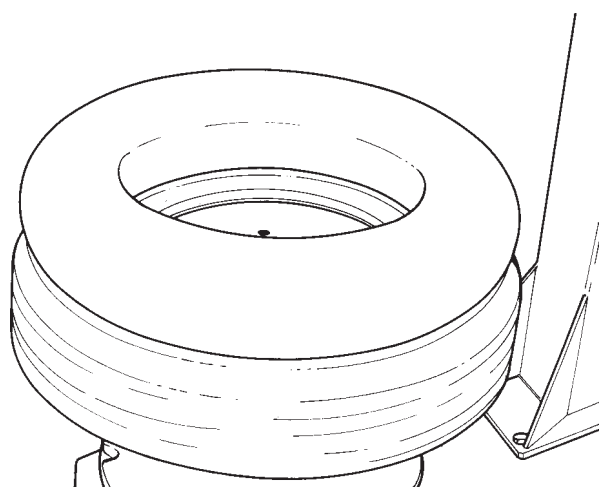

Fig. 5-1
B. Confirm that the tube is the correct size for the tire to be mounted. (Fig. 5-1).